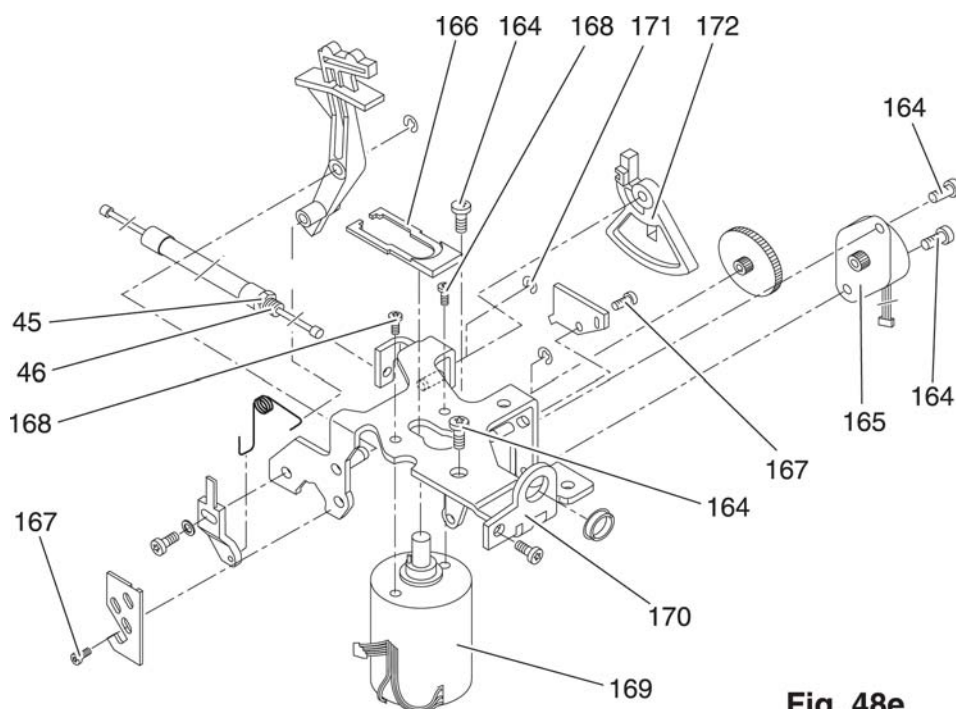

Fig. 48e
- Remove the two screws 164 and take off the stepping motor 165 (Fig. 48e).
Slacken off screws 167 slightly, slide the circuit boards until both pins are located at the center of the slots (Fig. 48e).